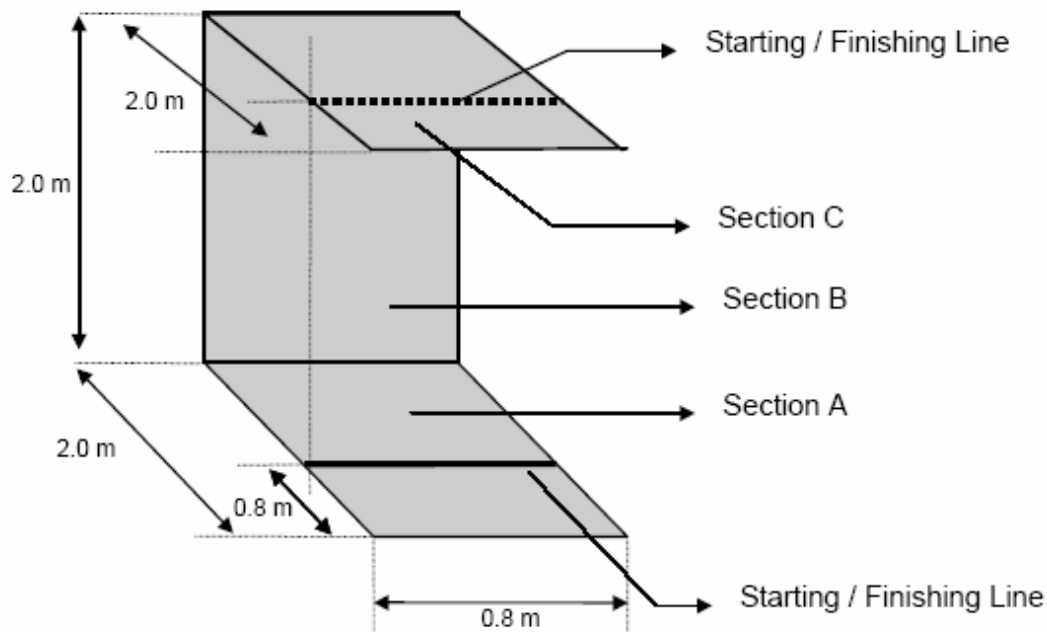

Figure 1: The wall for the wall-climbing robot race
2.1 The wall is shown in Figure 1. It consists of three sections: a two metres long horizontal section (section A) on the ground followed by a two metres high vertical section (section B) followed by a two metres long horizontal section (section C) at the top, with each section at least 0.8 metre wide. The following tolerance will applied:
The wall will be deemed to have satisfied criteria (a) and (b) above and be considered fit for use if each of the two distances between diagonally opposite corners (using the side view in Figure 1) lies in the range 2733 mm to 2847 mm.
- 2.4 The supporting structure for the wall will have provision for two safety cables to be attached to the robot so that both cables can be used simultaneously during the race (not shown in Figure 1.)